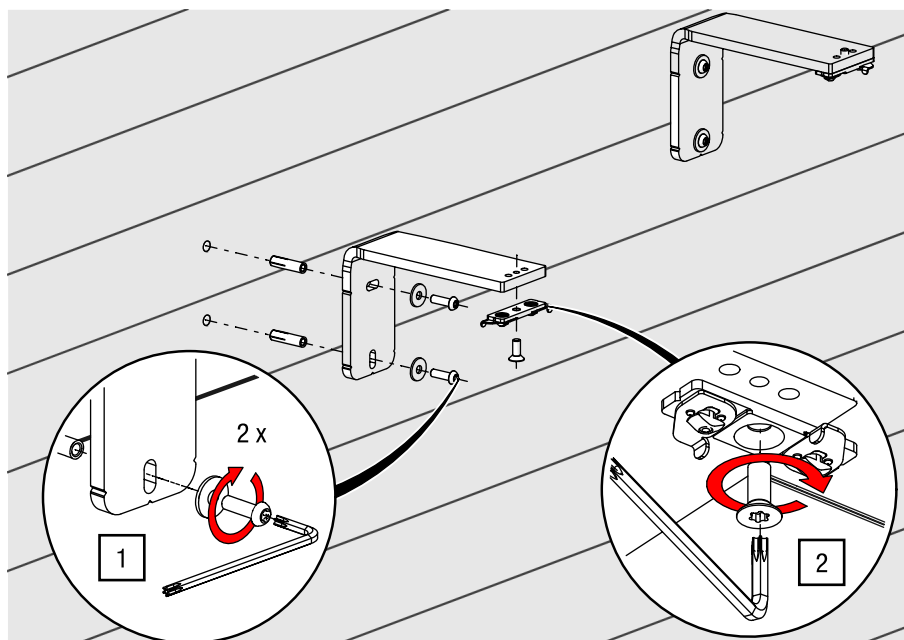

Fig. 43: Wall mounting Interior wall mount bracket – Attach wall mount bracket and screw ceiling mount bracket tight
1. Mount the drive-in anchor E M6×30 in the wall according to the manufacturer's specifications and screw the wall mount bracket tight using a TORX®-key T30 and 11 Nm (see Fig. 43).
2. Screw the ceiling mount bracket to the Interior wall mount bracket using a TORX®-key T30 and 11 Nm (see Fig. 43).